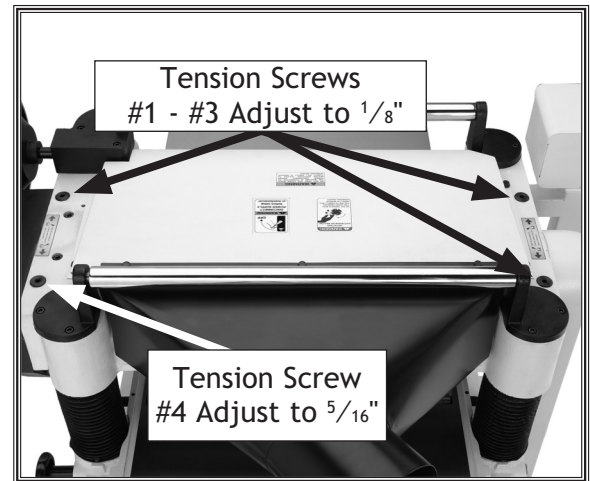

Figure 34. Tension screw locations and adjustments.
1. Locate the four tension screws located on the top of the planer, as shown in **Figure 34**.